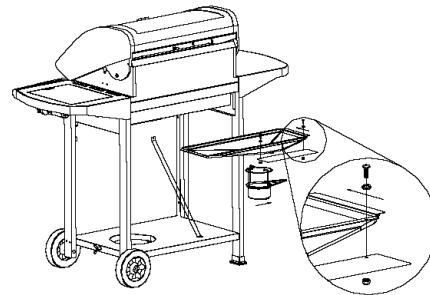

Figure 14
1. Attach the tank heat shield using (2) 5/32 x 1/4" Phillips head screws and (2) 5/32" nuts with (2) 5/32" flat washers on grease tray. Insert grease tray assembly into opening on backside of grill. Make sure to slide tray onto tracks as illustrated and that the grease cup is on the right hand side from the back. (Fig. 14)